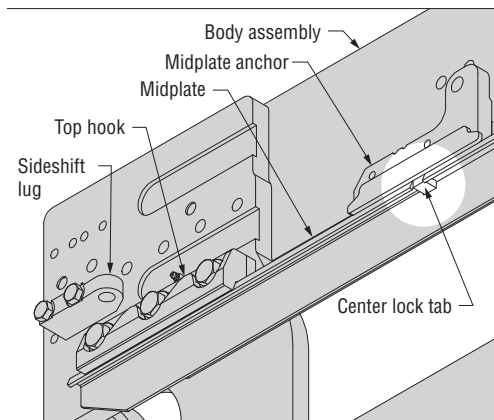

Figure 4-3, Locking Lug
9. Weld on the supplemental locking lug that is supplied with the attachment, (two pieces of 1/2" x 1/2" x 2.00" steel included with the attachment) with either E-6011 or E-6013 welding rod, or equivalent, on each side of the truck carriage. (Figure 4-3)